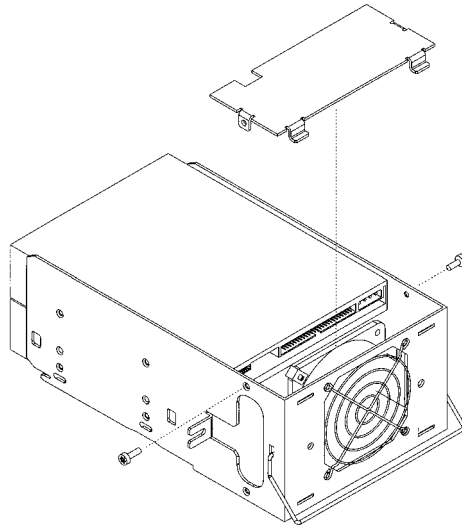

Figure 20: Unmounting a Drive From An Enclosure
5. Remove the T-10 screws that hold the small cable access panel on the top of the drive enclosure. Remove the panel (see Figure 20).
12. Remount the cable access panel on top of the enclosure with two T-10 screws (see Figure 20)
4. Remove the four T-10 screws holding the top and bottom access plates on the drive enclosure (see #1 and #2 in Figure 20). Remove the plates.